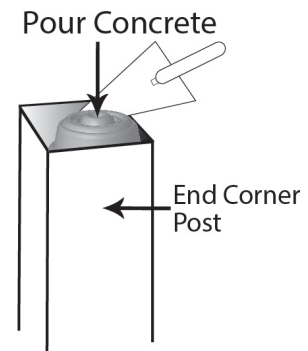

Fig.3b
2. Now fill the posts with concrete, tapping on the sides of the post to remove air-pockets in the concrete (Fig.3b).